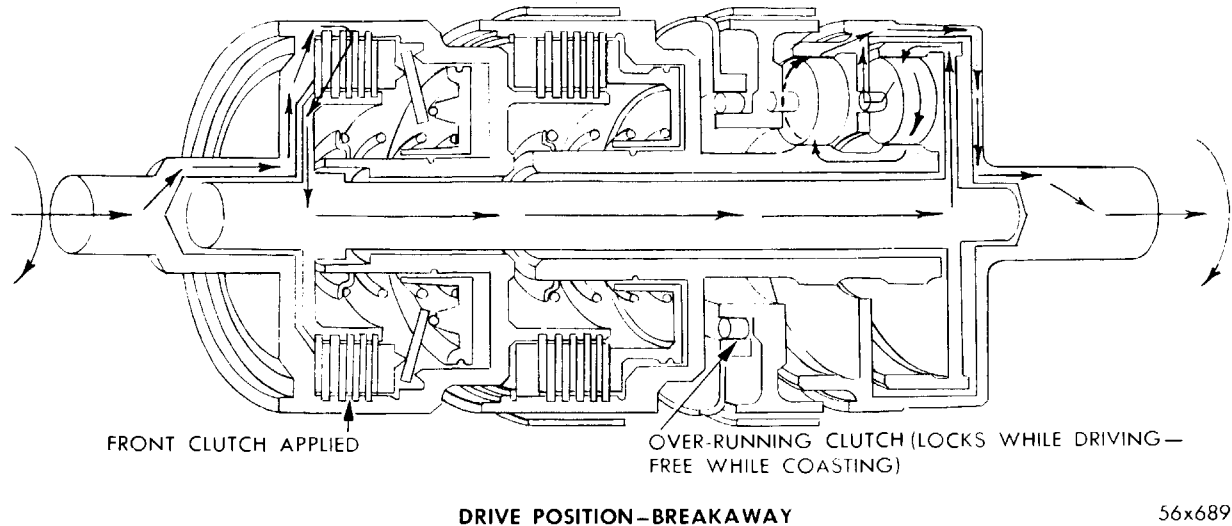

Fig. 6—Power Flow in D (Drive) Position — Breakaway
**D (Drive) Position Breakaway (See Fig. 6)**